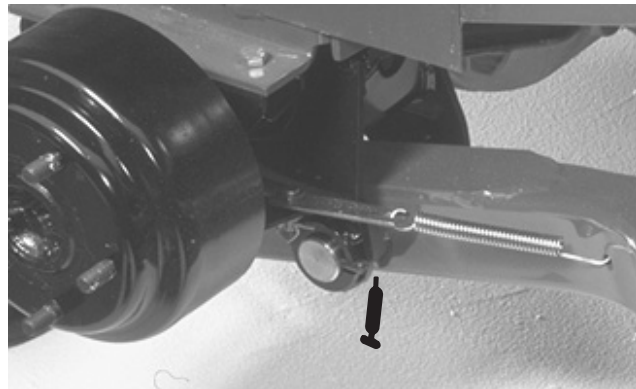

**Figure 22**
- Spindle shaft bearings (3) (located under the pulley) (Fig. 22)
- Idler arm shaft bearings (Fig. 22)